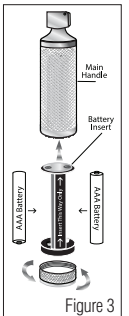

Figure 3
2. Replace with appropriate size batteries. Insert one battery positive end first and the other negative end first into battery insert, paying attention to the polarity markings. Slide battery insert back into handle following the direction of the "Insert This Way Only" arrows. Screw bottom cap on and tighten. (Figure 3)